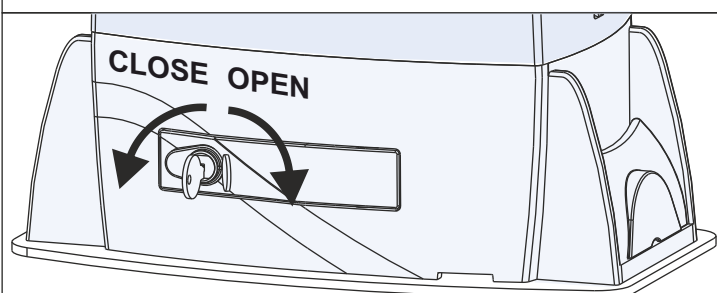

Fig. 28
- Open the lock cover, insert the key and rotate 90° clockwise (Fig. 28)